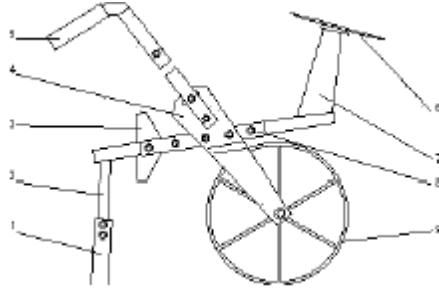

Fig. 1
- 3.1. Prepare all elements included in the kit and place them on the table. The delivery includes: holders with strut 5, coulter bracket 7, stirrup bracket 2, small coulter 3, large coulter 6, band stirrup 1, set: wheel stand 4, small link of base frame 8, wheel 9 (Fig. 1), user manual.
3.5. Install brackets with the knives in 5 corresponding holes of the small link of the base frame 8 (Fig. 1), which are evenly distributed on the frame. If the holes in the link and the bracket are matched, fasten the parts with the screw and nut. Stirrup is installed on the cultivator as shown in Photo 1. By changing the length of the small link of the basic frame 8 when the coulters are mounted, the angle of the coulters' inclination to the soil can be changed, which affects the ability to crush the soil (photos 2, 3).
When buying a seed drill for fine-seed crops SMK-2 ... 5 and a support (Photo 5), a KPA-2 ... 5 tricycle seed drill can be assembled on the basis of KR-1 cultivator. At the same time, the seed drill angle is determined by the small linkage of the basic frame 8 (Fig. 1) as shown in Figure 6, where the screw